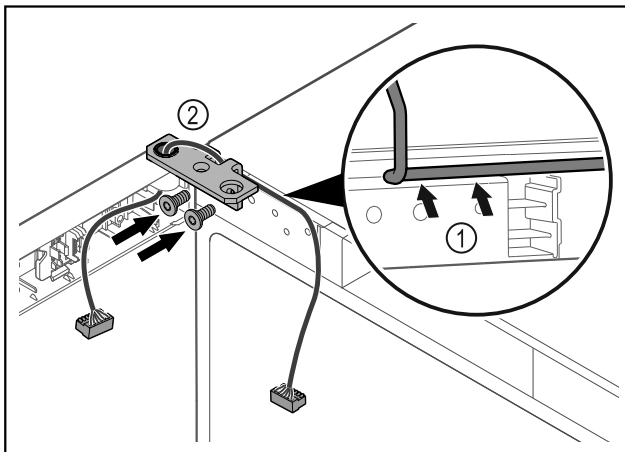

Fig. 39
- ▶ Feed the cable through the recess in the hinge and lay it carefully Fig. 39 (1).
- ▶ Screw on the hinge Fig. 39 (2).